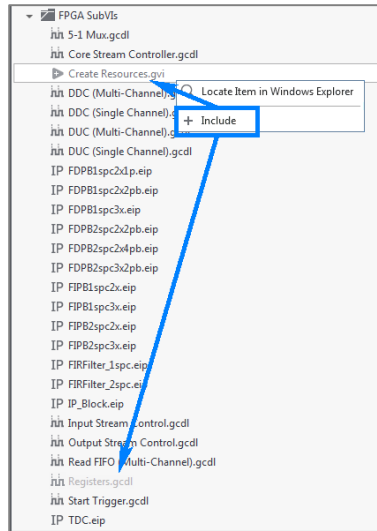

Figure 12: How to Include Additional Files in Project
- c. In the "Project Files" view on the Navigation Pane of the original project, the new files will appear slightly grayed out. Right-click on each and select **Include** as shown in Figure 12.